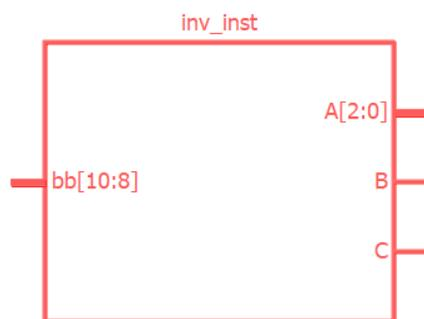

Figure 2.32. Schematic View Shows the Custom Rtl Module
- d. Click **OK**. The schematic block for the rtl module in red appears in the Schematic view (Figure 2.32).